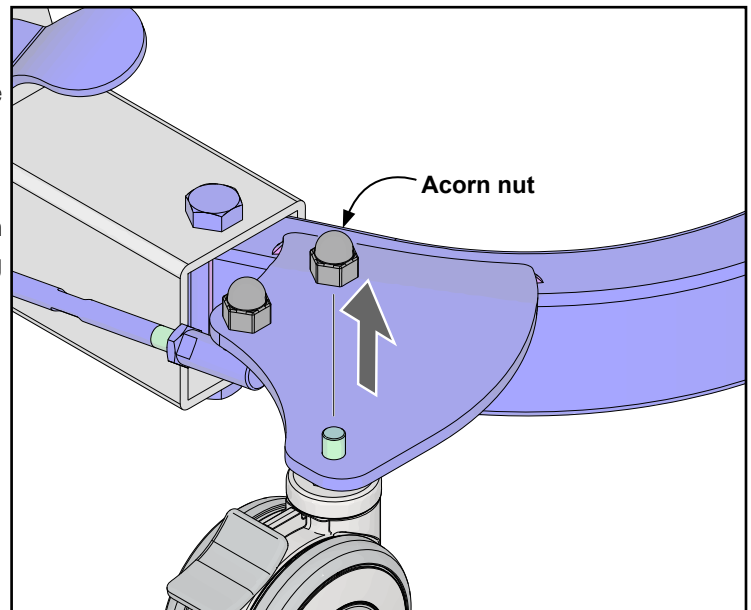

Fig. 13
2. Remove the caster by unscrewing the acorn nut (Fig. 13).